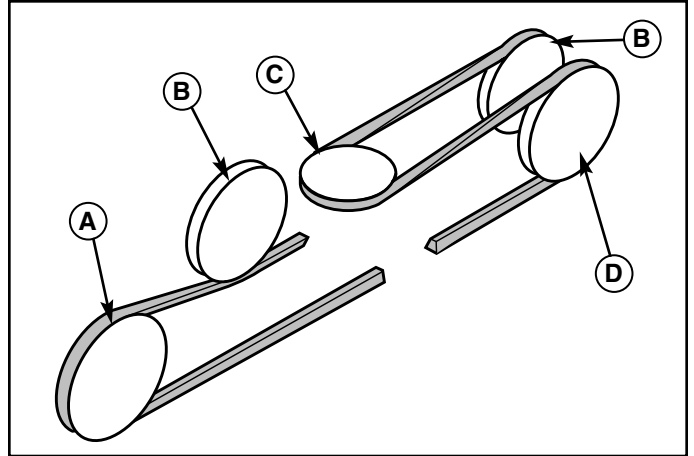

Figure 23. Belt Routing
8. Route the drive belt as shown in Figure 23. Note that the back of the belt rides in the back-side idlers (B).